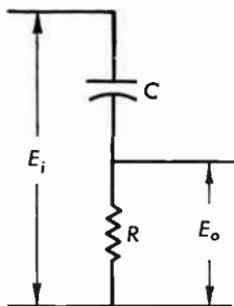

Fig. 8.25 Resistance-capacitance circuit for bass attenuation.
8.25 Write the equation of the voltage output as a function of the input for the bass attenuation circuit of Figure 8.25.